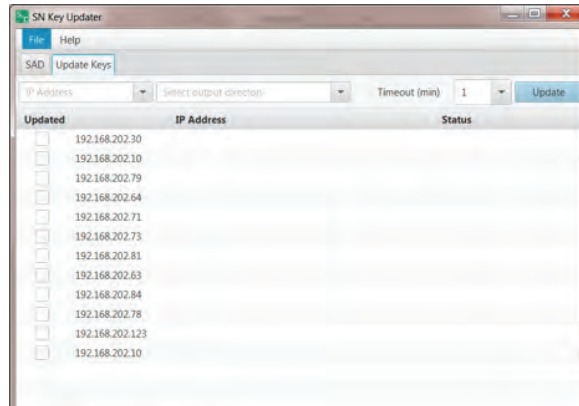

Figure 55. Key Updater IP address listing and Timeout selection window.
STEP 36. Choose a timeout value—it's the amount of time the Key Updater application waits for the process to complete for a single radio before timing out. See Figure 55.